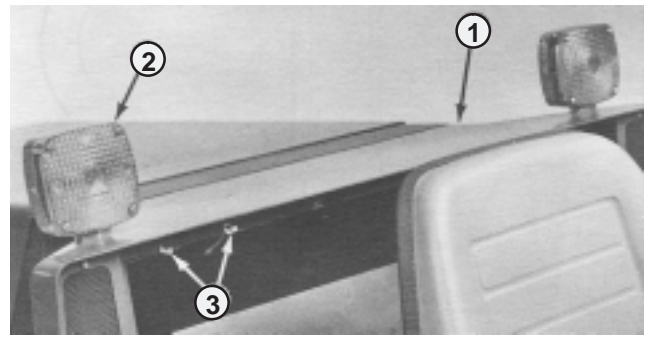

Figure 15
1. Mount a flashing light to each hole in cowl with flat washers, lockwashers and hex nuts (Fig. 15).
3. Connect the harness to each light assembly. Using (4) wire clips, secure the left flashing light harness to the top under side of cowl (Fig. 15).